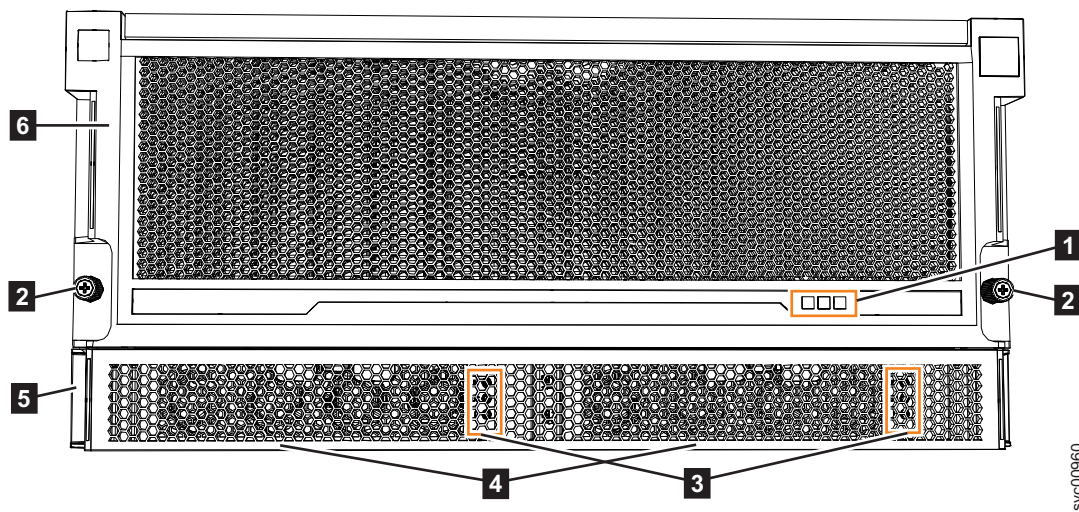

Figure 101. Features on the front of the 2077-92F expansion enclosure
- Before you connect the power cables to the rear of the enclosure, always check that the expansion enclosure is secured in the rack. If needed, tighten the thumbscrews on the front of the enclosure (**2** in Figure 101) to ensure that the enclosure drawer does not roll open.
The 2077-92F expansion enclosure has two power supply units (PSUs) that are accessible from the front of the enclosure (**4** in Figure 101). As the figure also shows, the PSUs are covered by the 1U fascia (**5**).
On the front of the enclosure, the indicators on the front display panel and each PSU (**1** and **3** in Figure 101 on page 121) are also lit when the power is connected. See “Storwize V5000 Gen2 2077-92F expansion enclosure LEDs and indicators” on page 124 for information about the status that is provided by the indicators.